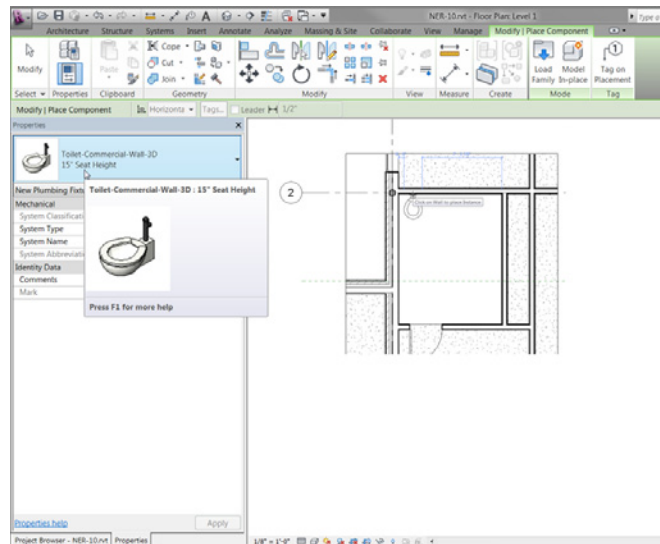

FIGURE 9.39: Placing the 15" (381mm) Seat Height toilet 6" (150mm) from the west wall, along the north wall
10. Place it along the north wall approximately 6" (150mm) from the west wall, as shown in Figure 9.39.